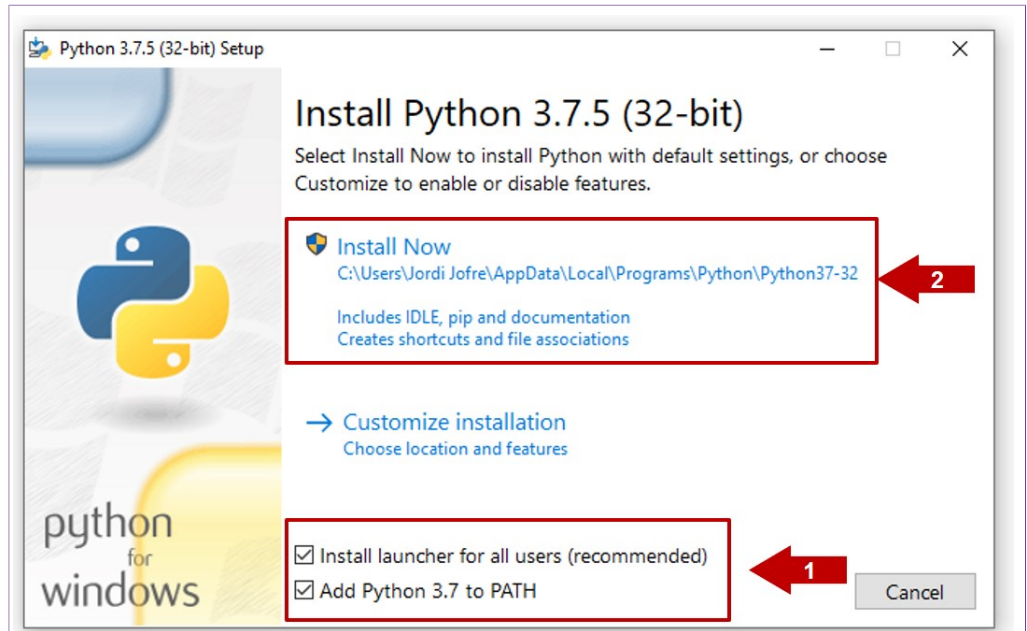

Figure 61. Install Python 3.5.x 32 bit for Windows
2. Double click on the downloaded installer file. Select the *"Install launcher for all users"* and *"Add Python 3.7 to Path"* options and click *Install Now* as indicated in Figure 61: